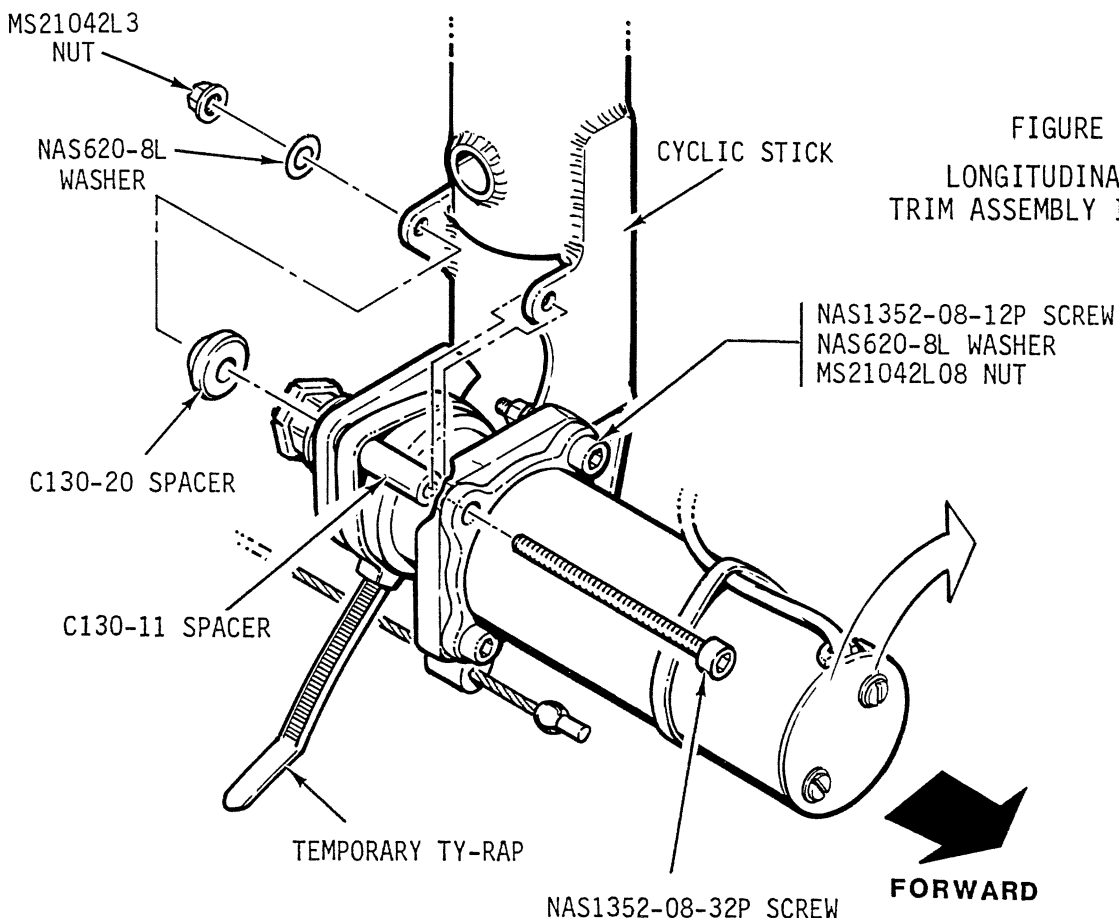

FIGURE 8-4C
- a) Refer to Figure 8-4C. Install trim motor assembly on cyclic stick with NAS1352-08-12P screw NAS620-8L washer and MS21042L08 nut in lower position and lightly tighten. Pivot motor upward and install NAS1352-08-32P screw, C130-11 spacer (may be secured to motor with ty-rap to ease installation), C130-20 spacer (chamfer pointing aft), NAS620-8L washer, and MS21042L08 nut in upper position. Remove ty-rap used to position C130-11 spacer, if installed. Torque nuts to 20-25 in.-lbs (includes nut self-locking torque).